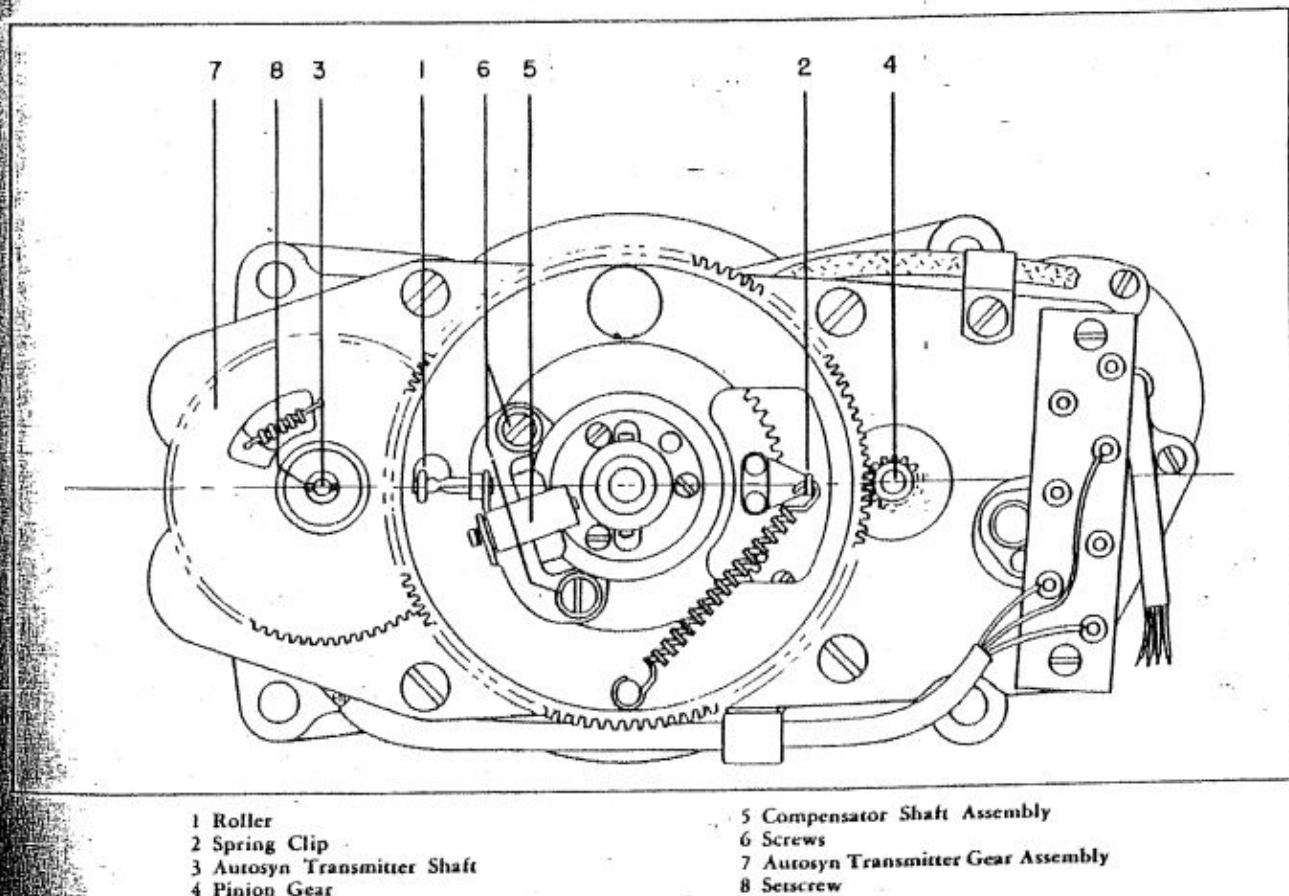

Figure 5-64. Alignment of Adjustable Cam Assembly
d. Push down on the roller (figure 5-64, reference 1) of the compensator shaft assembly until the centerline of the spring clip (reference 2) of the compensator gear assembly is directly in line with a centerline passing through the autosyn transmitter